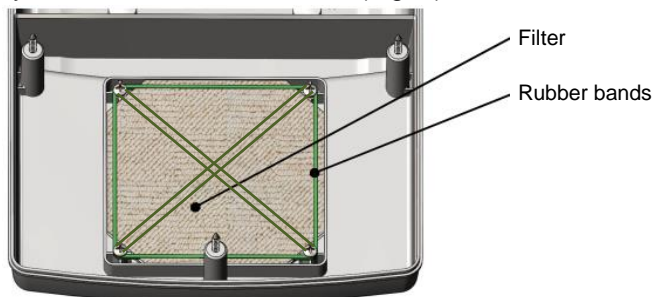

Fig. 4 Air filter
- Install a new filter on the air grid from the inside part of the body and fix it by means of the rubber bands (Fig. 4).